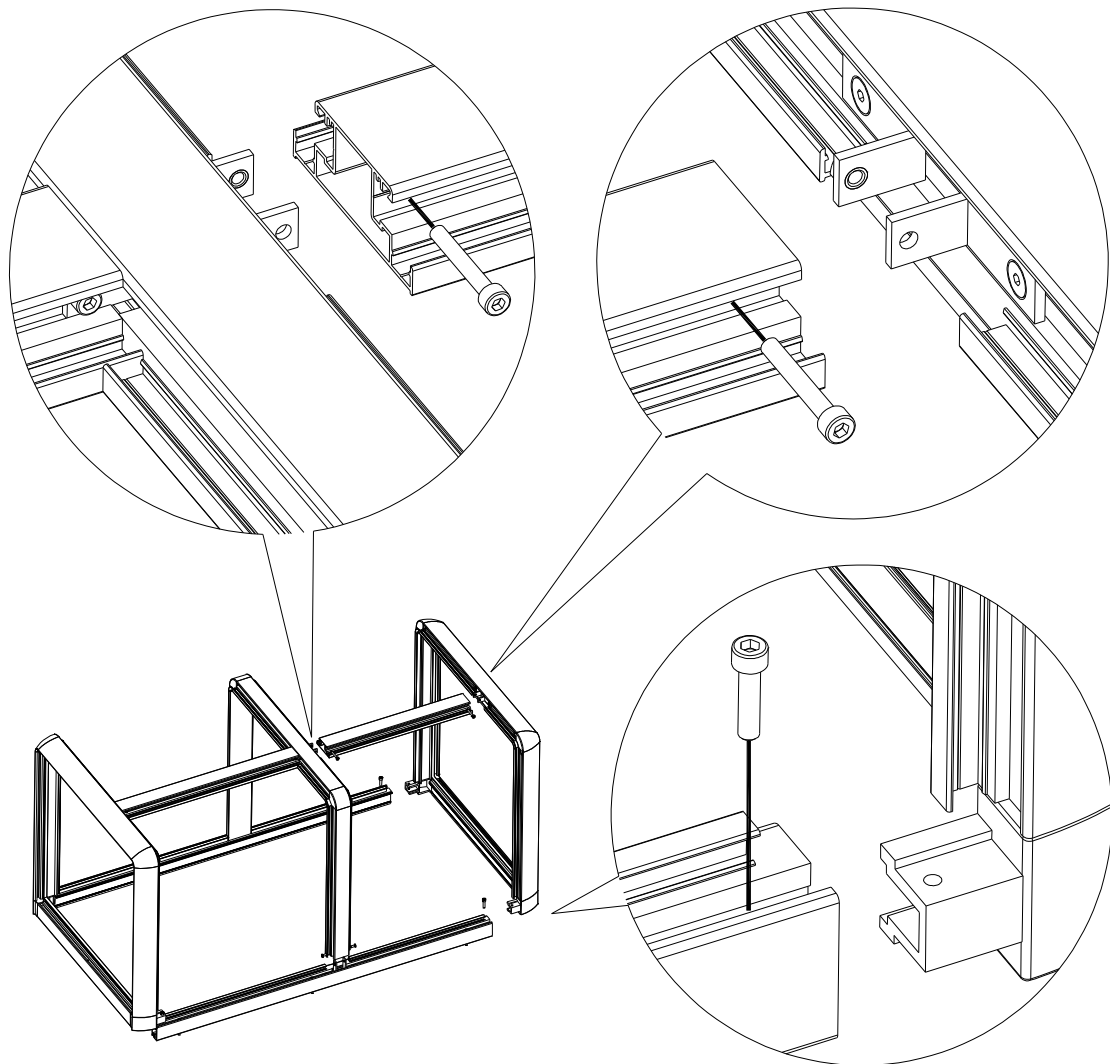

Figure 28: exploded view sound shield W-SQ12
- 2 The sound shield can be disassembled according to exploded view below (figure 28).